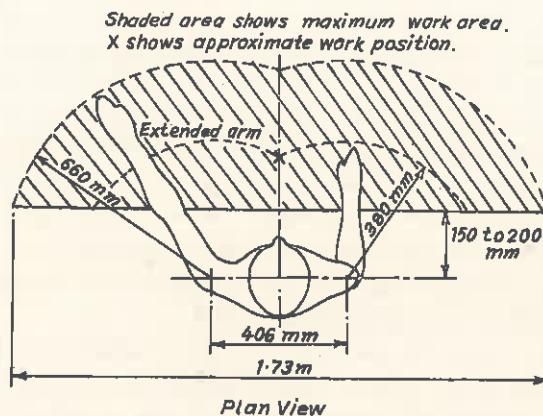

Fig. 9.21. Critical dimensions for seated male operator
- Fig. 9.21 shows suggested critical dimensions for a group of males using a seated workplace. These dimensions can be obtained quickly and easily and will be quite satisfactory for constructing a mock-up of the proposed design.
The Fig. 9.21 shows the left hand covering the maximum working area and the right hand covering the normal working area.